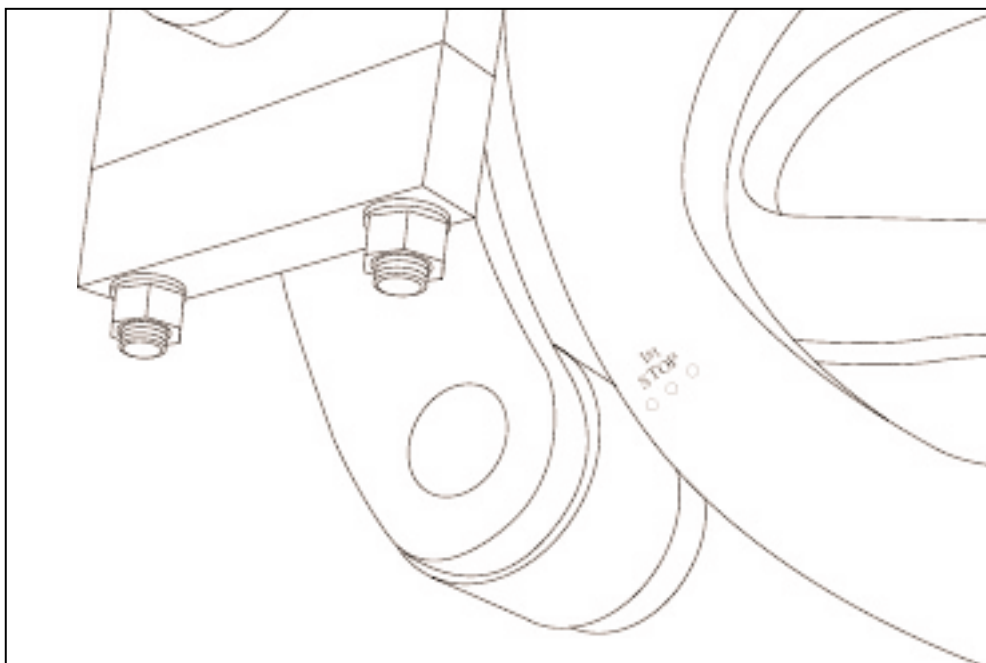

Figure 18.3 "FIRST STOP" (R.H. side of machine).
- 18.1.2 Run machine to "first stop" (see figure 18.3) "First stop" is obtained when the punch marks on the right side of the outside cam are in line with the roller.